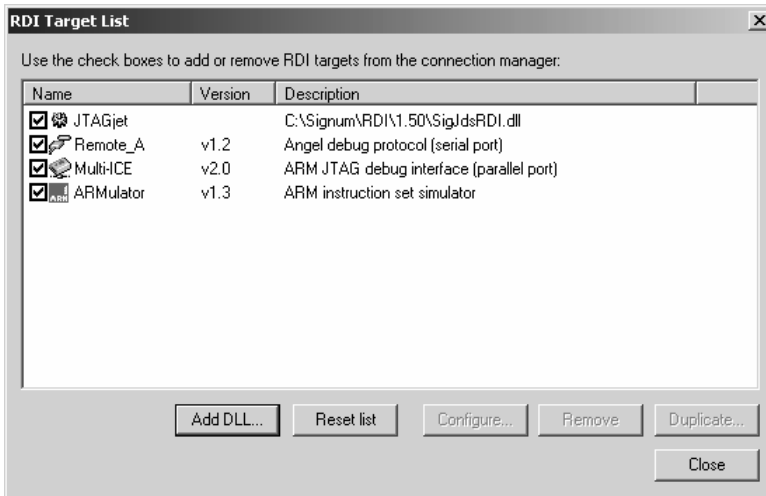

FIGURE 8 The augmented target list.
5. Make sure that the new target entry appears in the RDI target list (Figure 8) and close the RDI Target List dialog box.